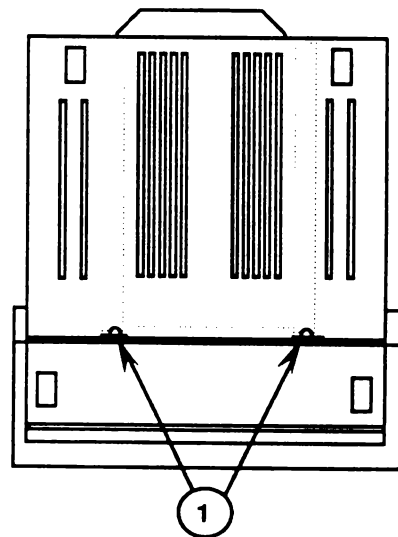

FIGURE 1
3. Remove the two screws (Figure 1, #1) from the bottom of the monitor.